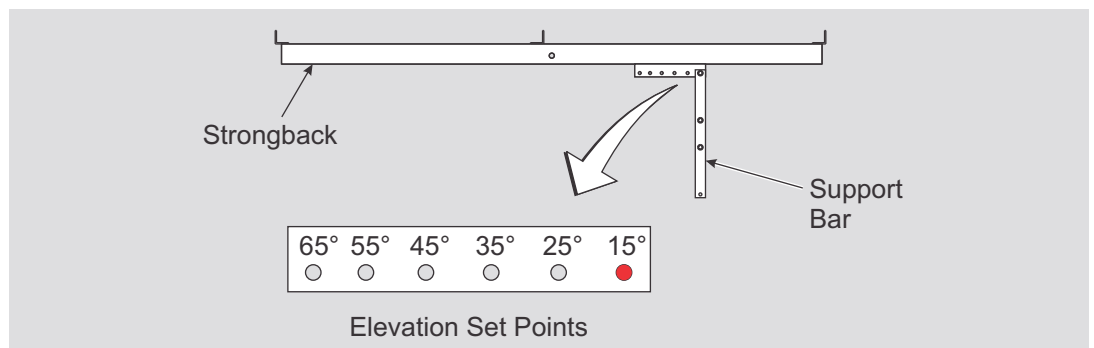

Figure 7-2: Setting the Tilt Angle
- B. Tilt the rack to the desired elevation angle (15°, 25°, 35°, 45°, 55°, or 65°) and re-attach the Support Bar to the Strongback placing the 3/8" hardware in the appropriate hole matching the desired elevation. **Torque to 32-34 ft.-lbs.** (See Figure 7-2)